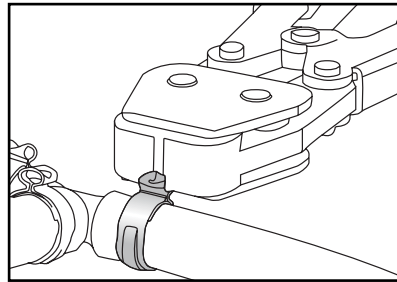

Fig. 14: Correct jaw tip placement
1. Place hand clamp cutter jaw tips on each side of clamp ear or single leg (Fig. 14).